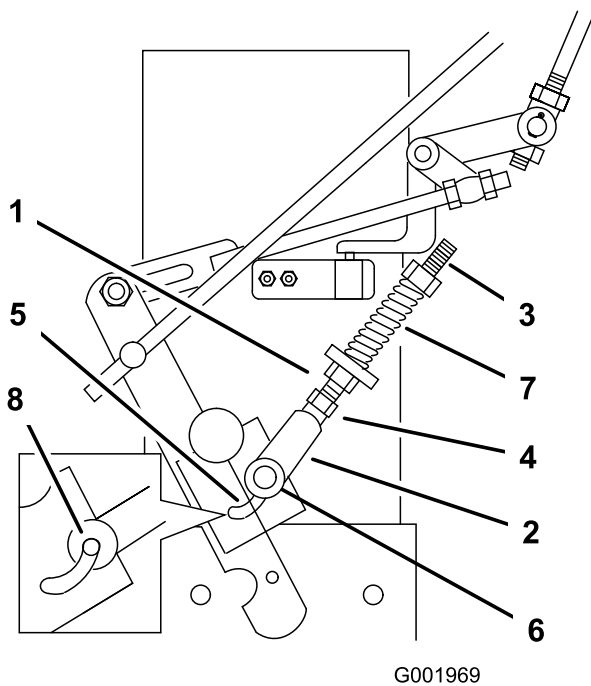

Figure 51
- Adjust the left and right neutral stud until the clevis pin in the yoke touches the back end of the slot in the control arm (Figure 51).
- If the wheel turns while holding the drive lever in neutral, the neutral stud needs to be adjusted (Figure 51). If wheel stops then go to 12.@@@5.
- Loosen the nut against the yoke (Figure 51).
- Adjust the adjustment stud until the respective drive wheel stops while holding the drive in the neutral position (increased resistance) (Figure 51).
- Turn the adjusting bolt approximately 1/4 turn clockwise if the wheel is turning in reverse or turn the bolt approximately 1/4 turn counter-clockwise if the wheel is turning forward (Figure 51).